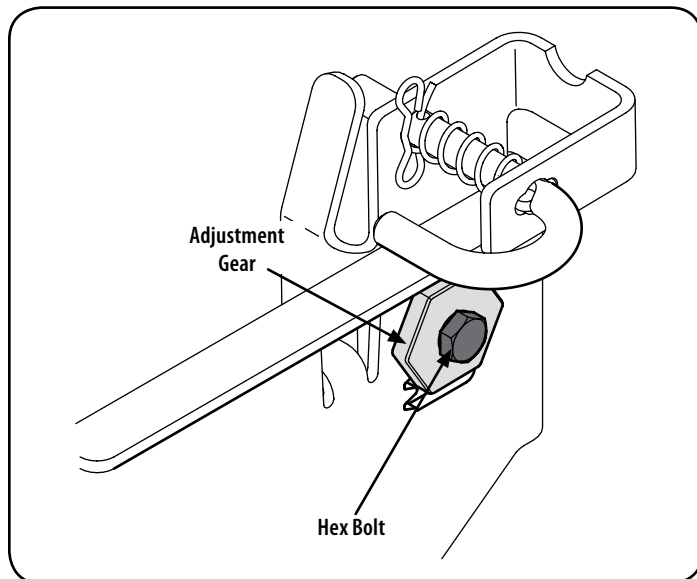

Figure 20
3. Loosen, but do NOT remove, the hex bolt on the rear left deck hanger link. See Figure 20.
4. Using a wrench, raise or lower the left side of the deck by turning the adjustment gear. See Figure 20.